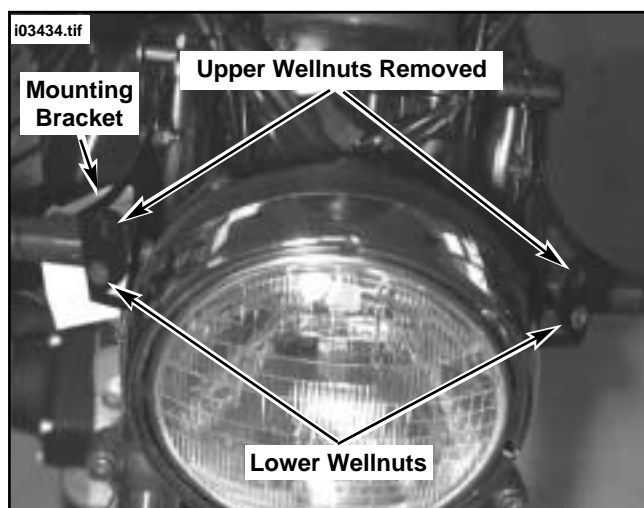

Figure 2. Remove Upper Wellnuts
2. See Figure 2. Remove the two upper well nuts from each of the mounting brackets but leave lower well nuts in place.